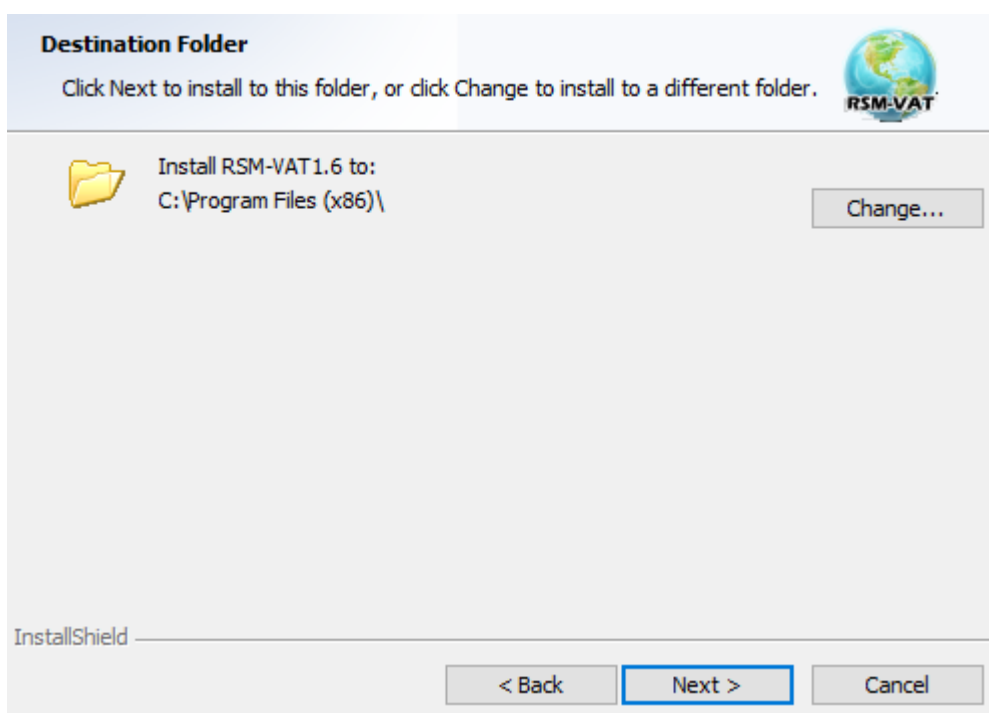

Fig. 2 Choose Install Location
- Click the “Next” button, to use the default install location as shown in Fig. 2.